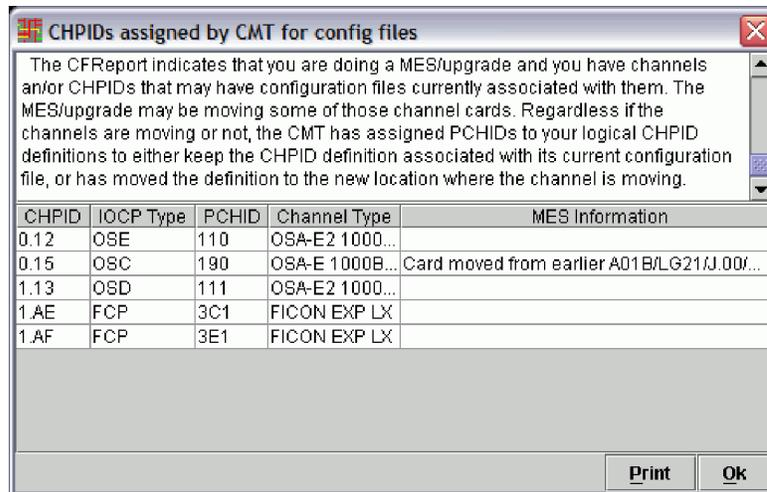

Figure 12. CHPIDs Assigned by CMT for Config Files Window
3. For an upgrade or MES to a z9-109, the panel shown in Figure 12 on page 13 may be displayed: